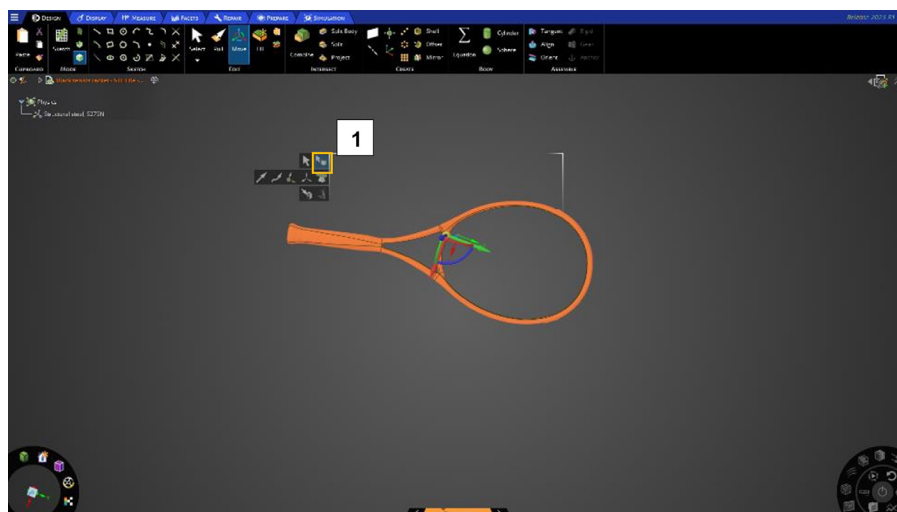

Figure 12: Image showing the “Move” command options.
3. Select the “Select component” option (Fig. 12 (1)) and select the tennis racket.